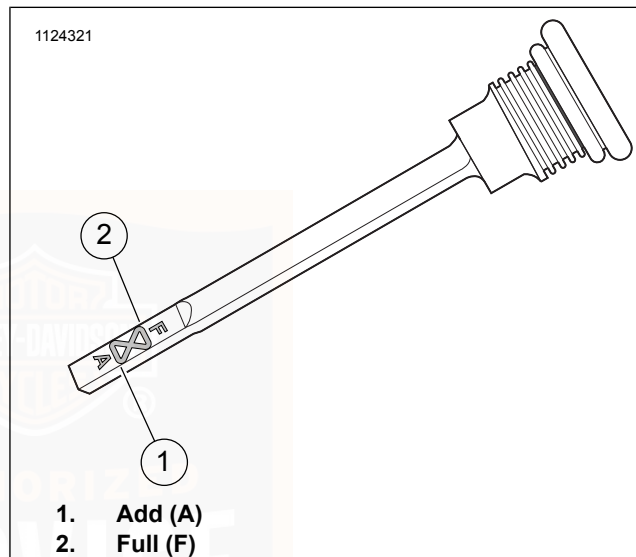

Figure 58. Transmission Lubricant Level
5. See Figure 58. Remove filler plug/dipstick. Check lubricant level on dipstick. Proper oil level is between the Add (A) (1) and Full (F) (2) marks.
6. Check lubricant level. Add enough lubricant to bring the level between the add (A) and full (F) marks. See Figure 58.